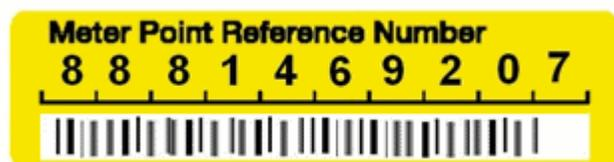

Figure 100 - Meter Point Reference Number (MPRN) Label
7. Place this label (Figure 100) over the relevant section on the information label titled Meter Point Reference Number.